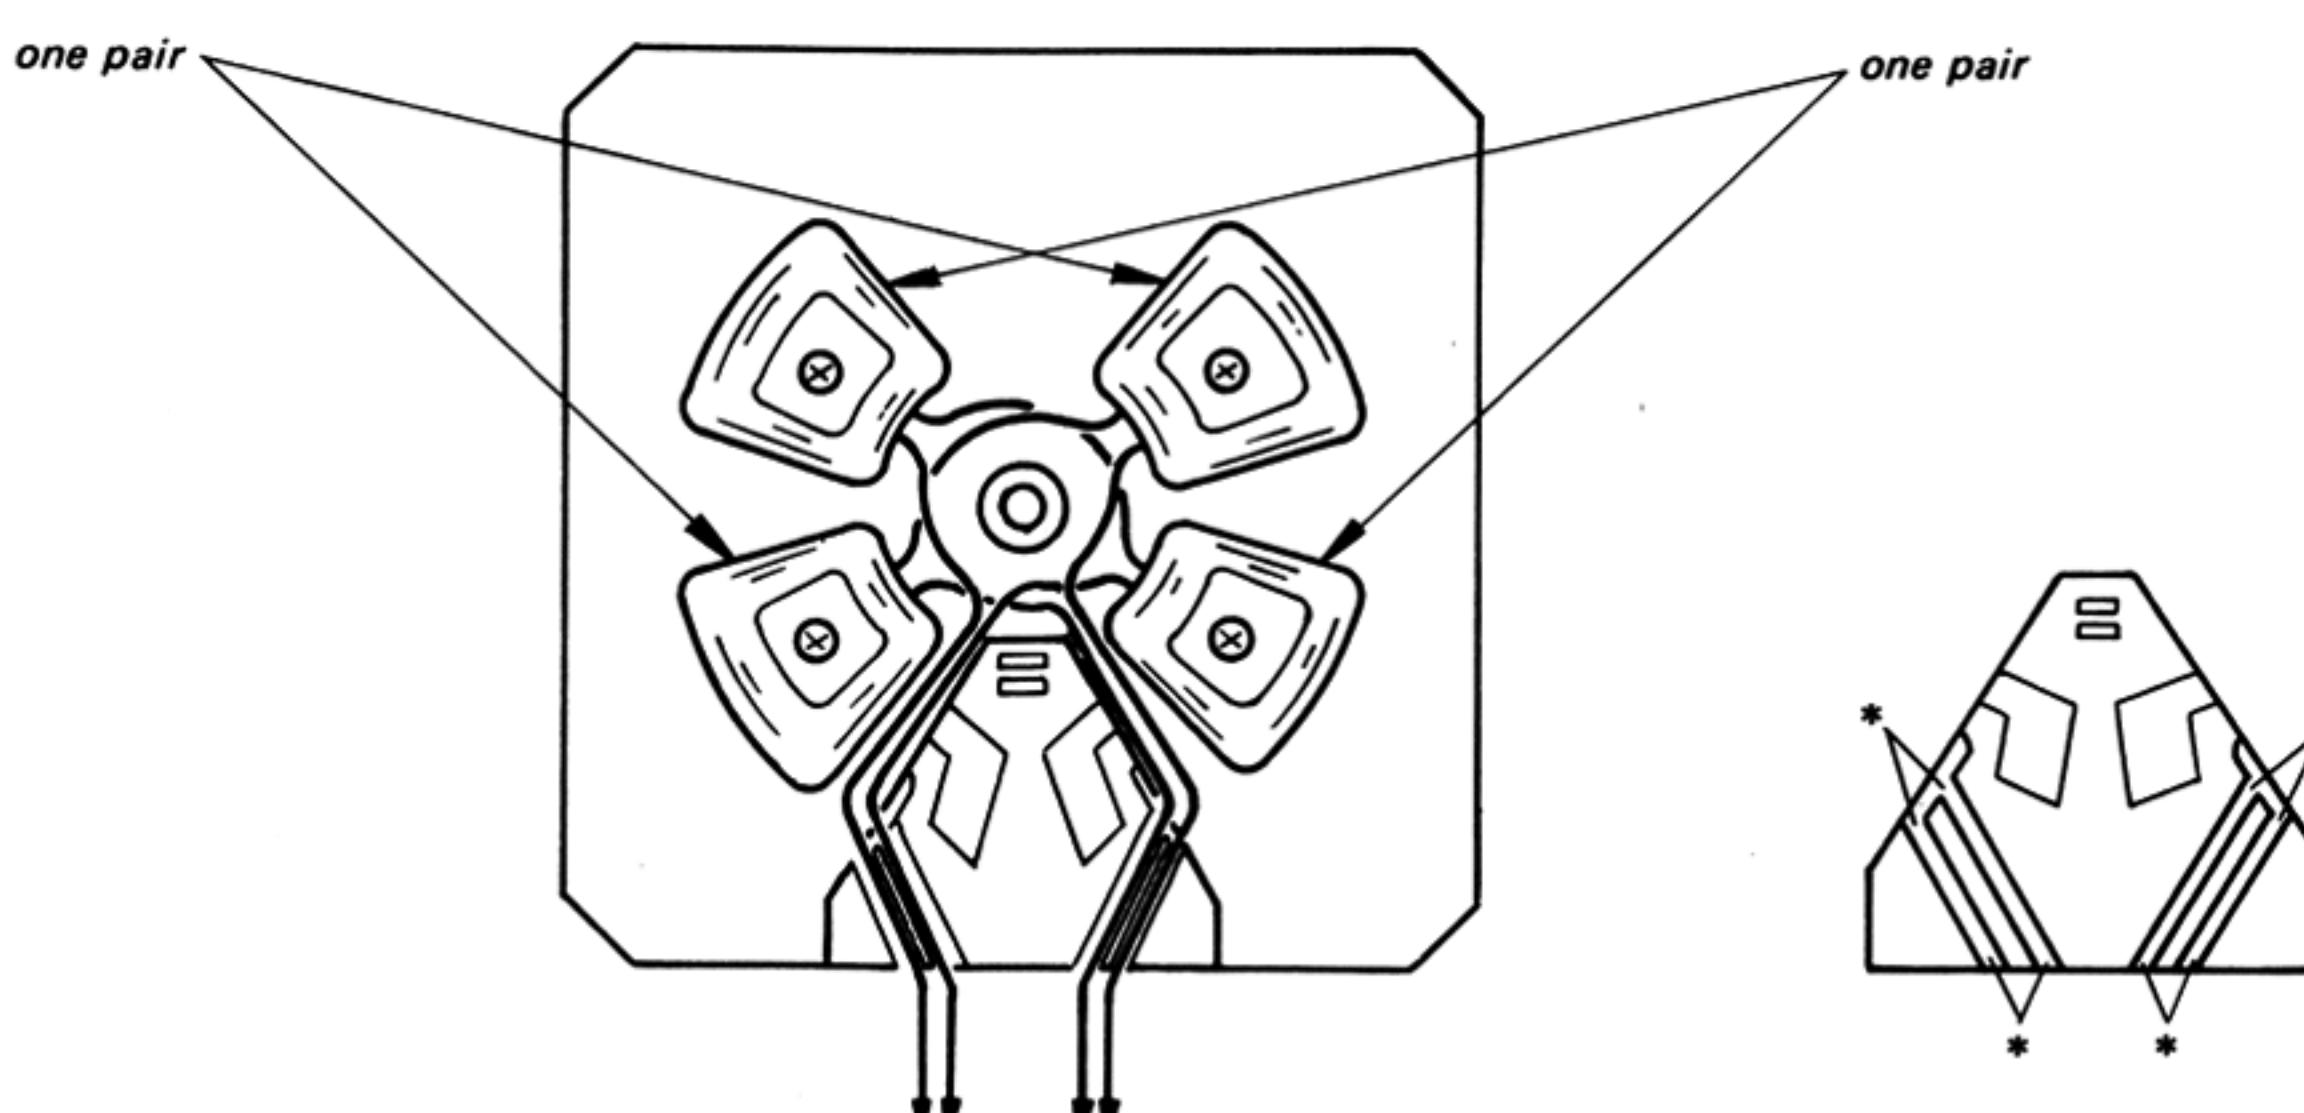
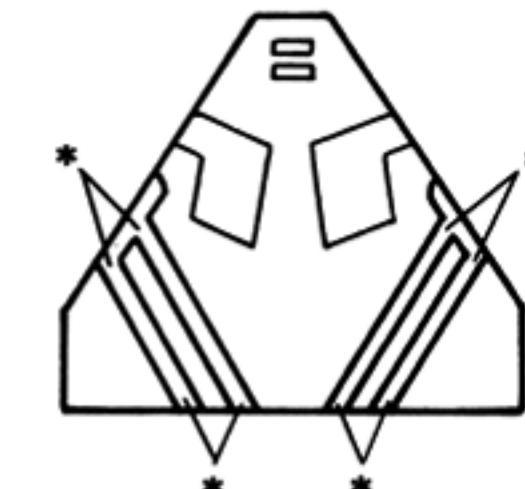

Fig. 5-4
Fig. 5-5
b. Lay the leads of the coils as shown in Fig. 5-4 and fix the leads in the slot marked by * in Fig. 5-5.